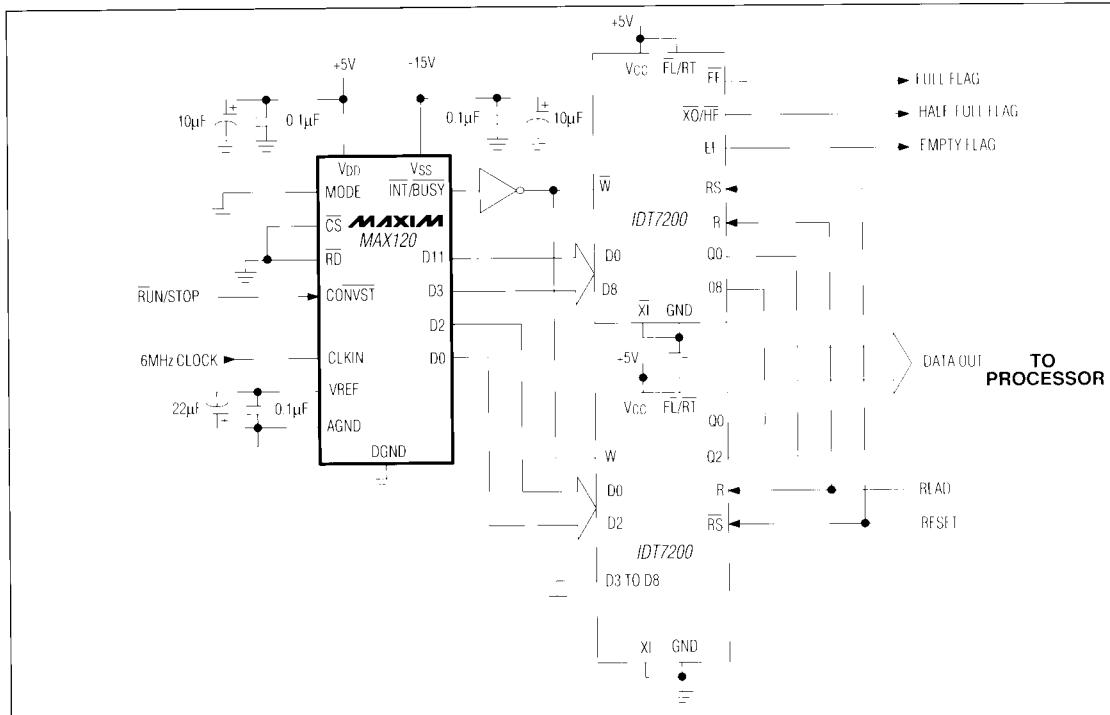

Figure 13. Using MAX120 with FIFO Memory
Using FIFO memory to buffer blocks of data from the MAX120 reduces μP interrupt overhead time by enabling the μP to process data while the MAX120, unassisted, writes conversion results to the FIFO. To retrieve a block of data, the μP reads from the FIFO via a read-interrupt cycle. Read and write operations for the FIFO are completely asynchronous. Figure 13 shows the MAX120 operating in continuous-conversion mode (mode 5), writing data directly into the two IDT7200 256 x 9 FIFO buffers at the rate of 428kps. The μP is interrupted to read the accumulated data by the FIFO's half-full (HF) flag approximately three times per millisecond. For operation at 500kps, use an 8MHz clock, and pulse CONVST at 500kHz. The full flag (FF) indicates that the FIFO is full. If this flag is ignored, data may be lost. If necessary, conversions can be inhibited by pulling $\overline{\text{CS}}$, $\overline{\text{RD}}$, or CONVST high. The FIFO's read cycle times are as fast as 15ns, satisfying most system speed requirements. The RESET input resets all data in the FIFO to zero.